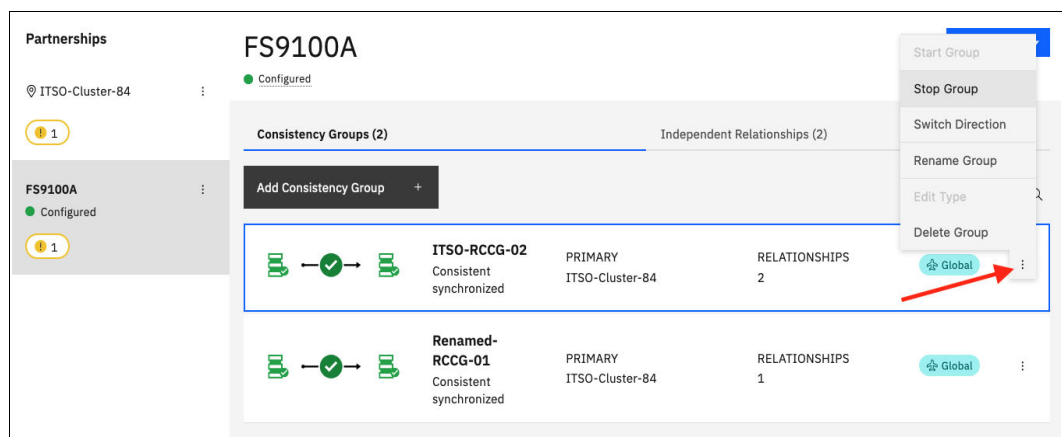

Figure 10-143 Stopping a consistency group
- Select the target RC system and go to the **Consistency Groups** tab. Next, click the three dots for the consistency group to be stopped and select **Stop Group**, as shown in Figure 10-143.